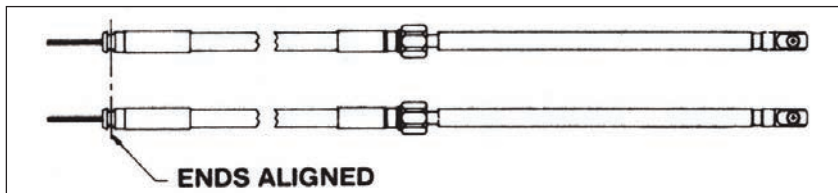

Figure 7.
**STEP 1.** Push both output rams of the cables to the fully retracted position. Make sure that they stay fully retracted during installation into the helm. Remove the protective sleeves from Steering Cables. Make sure that dirt does not get onto the lubricated cable ends. Hold both cables together at the helm end with the faces of the conduit fittings flush, as shown in Figure 7